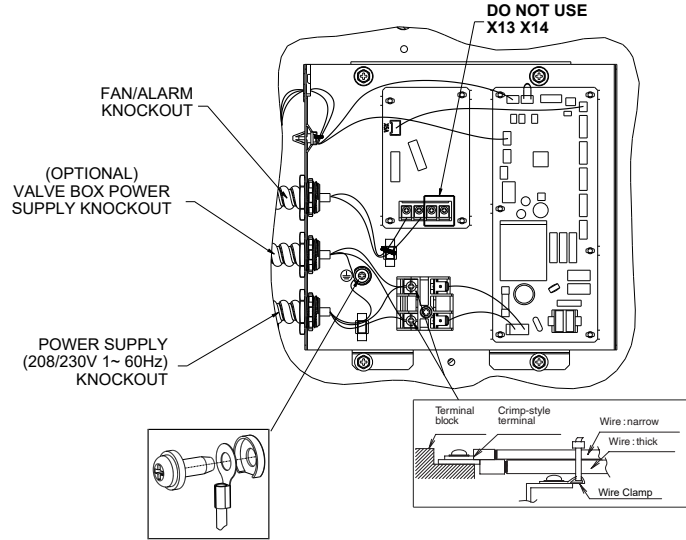

FIGURE N.4
- Locate the 3 knockouts on the side of the Enclosure Control Box. (Refer to Figure N.4)
5. When pulling the ground wire out, wire it so that it comes through the cut-out section of the cup washer (Refer to Figure N.4). An improper ground connection may prevent good ground from being achieved.